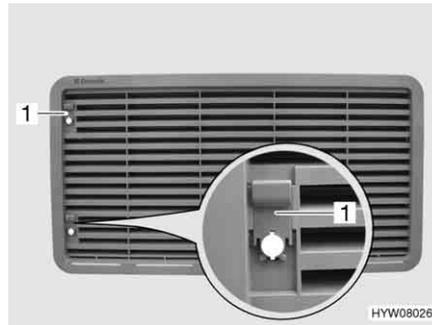

Fig. 204 Refrigerator ventilation grill (with sliding trap)
- Push sliding trap (Fig. 204,1) upward.